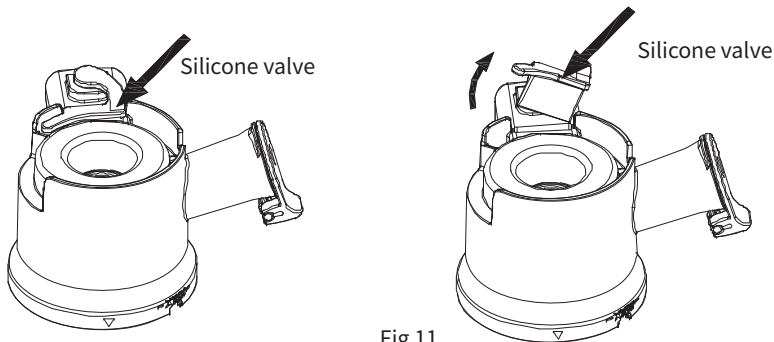

Fig 11
2. In case there is any residues remained in the mouth of the pulp spout, please pull out the silicone valve as shown in (Fig 11) below and clean under running water.